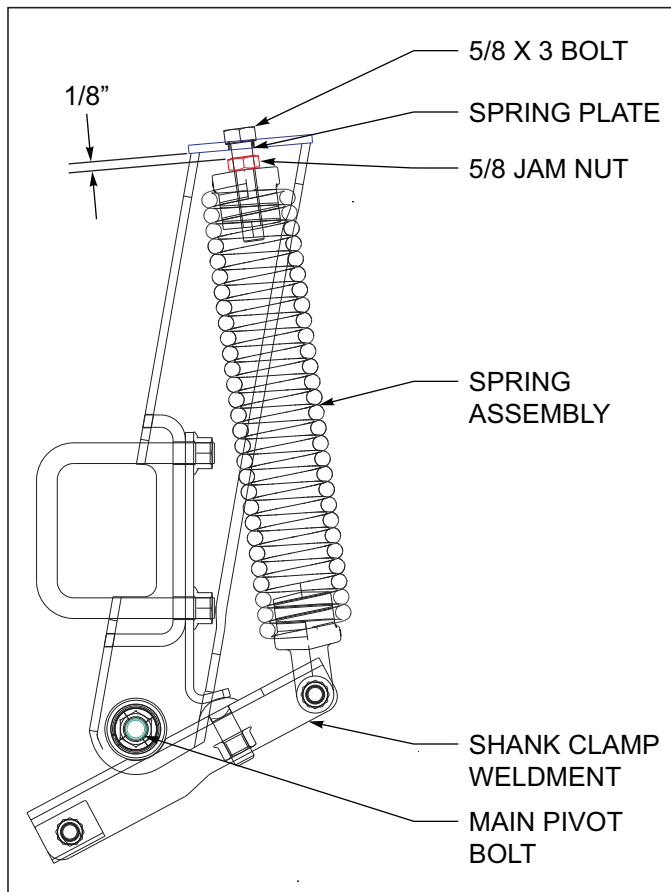

Figure 4-9: Spring Adjustment
3. When adjusting/assembling the spring assembly, tighten the upper spring bolt, but leave approximately 1/8" gap above the spring jam nut *See Figure 4-9*. This will leave the proper clearance for the spring to pivot. Lock the jam nut against the top of the spring, not the top of the mount. Likewise do not over tighten the lower spring cross bolt. Remove any slack in the bolt, but still allow the lower spring to pivot freely.